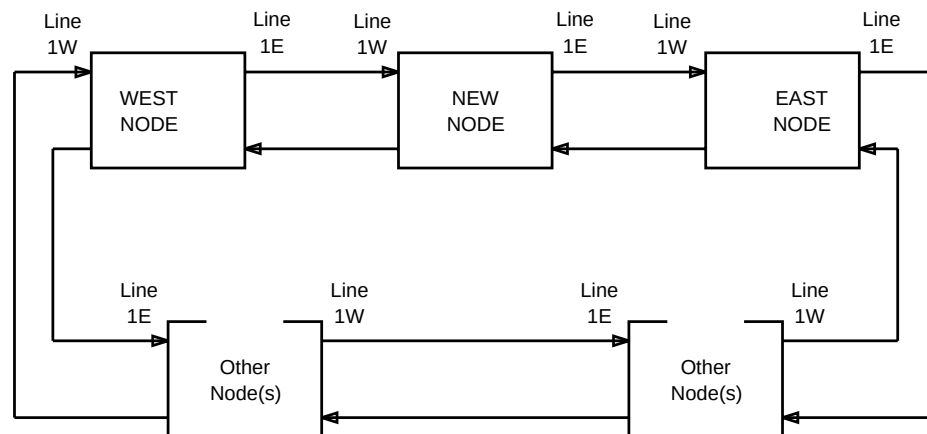

Figure 5 – Ring Network With New Node
16.  NOTE: Refer to Figure 5. The forced switch at the West node can now be reset.
17. Refer to Figure 5. The forced switch at the East node can now be reset.